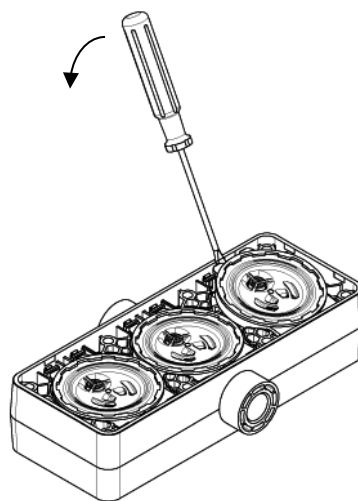

Figure 3: Dismantling the intermediate plate
1. Undo the eight head screws (1) and remove the complete head from the pump housing.
2. Remove the head plate (2) from the connecting plate (6).
3. Remove the resonating diaphragm (5), both O-rings (4) and Sylodyn (3) from the head plate (2).
4. Remove the three intermediate plates (9) according to Figure 3 from the connecting plate (6) using a slot screwdriver (size 0).
5. Remove the six O-rings (7) and anchor valves (8) from the connecting plate (6). Note: Do not use sharp objects to remove the O-rings to avoid damaging them. Use compressed air to blow out the O-rings.
6. Undo the three diaphragms (10) by hand.
7. Remove the three insert rings (11) from the pump housing.